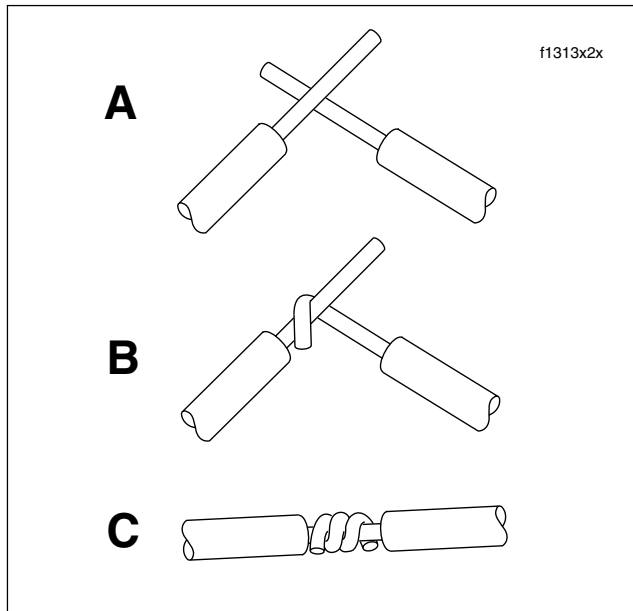

Figure 8-112. Splice Switch Wires
- a. Hold the wires so that the stripped ends cross as shown in A of Figure 8-112. Note that the wire on the left is on top and two-thirds of its stripped length lies beyond the point where they intersect. Looking at the other wire, only 1/3 of its stripped length lies beyond the intersection point.
- b. Holding the wires together at their juncture, start the splice by tightly twisting the top one-third length of the right hand wire over the left as shown in B of Figure 8-112.
- c. Tightly coil the remaining two-thirds of the left hand wire around the right with the results shown in C of Figure 8-112.